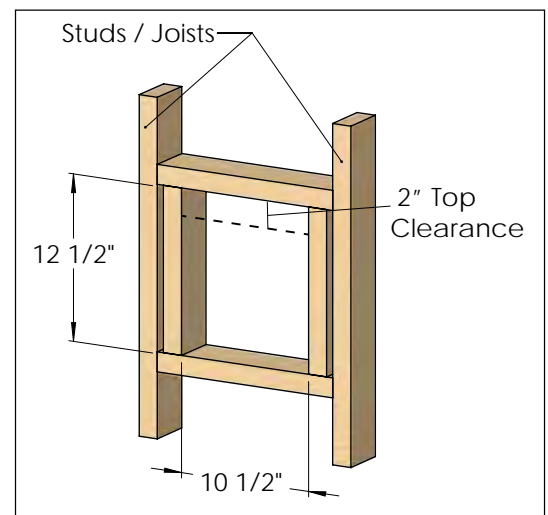

Figure 62: Horizontal Thimble Framing
**For installations using a horizontal thimble**, a framed opening of 10 1/2" x 12 1/2" (figure 62) is required to provide an additional 2" top framing clearance. **For installations using a vertical thimble**, a standard 10 1/2" x 10 1/2" framed opening can be used. This appliance also requires that all thimble applications be fully insulated with non-combustible mineral wool (rock wool) as shown below.